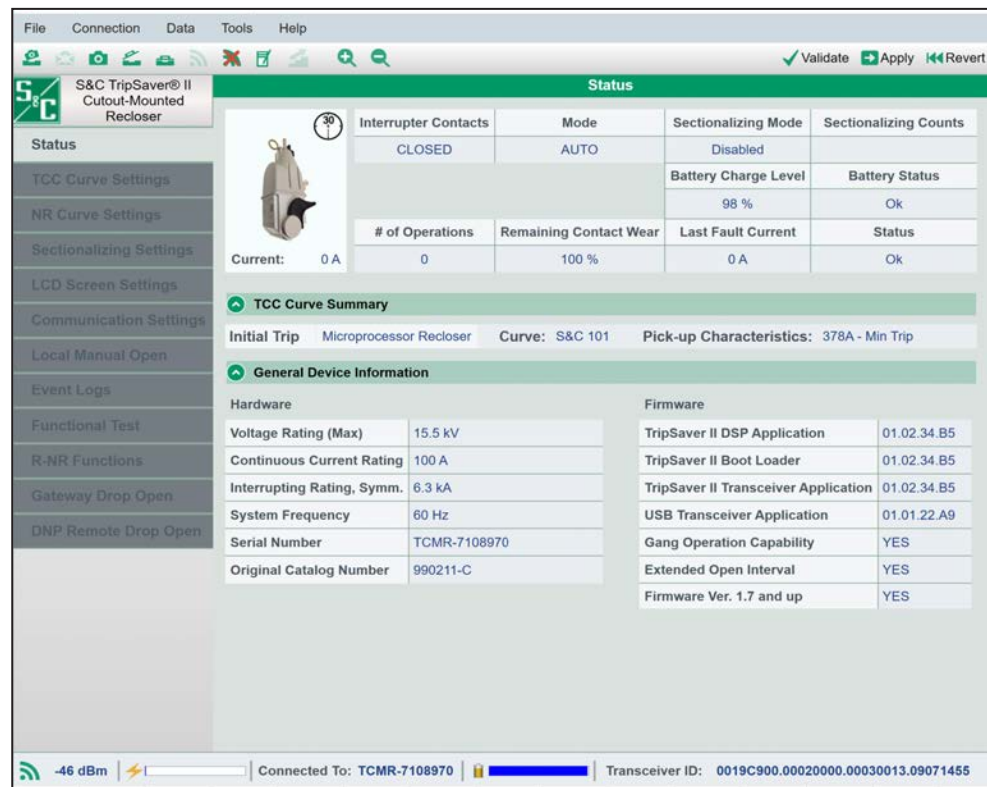

Figure 168. The Status screen after a successful profile restoration.
STEP 4. A "Success" message will appear when the profile restoration is complete. Check the *Status* screen to make sure the profile information has been successfully restored. See Figure 168.